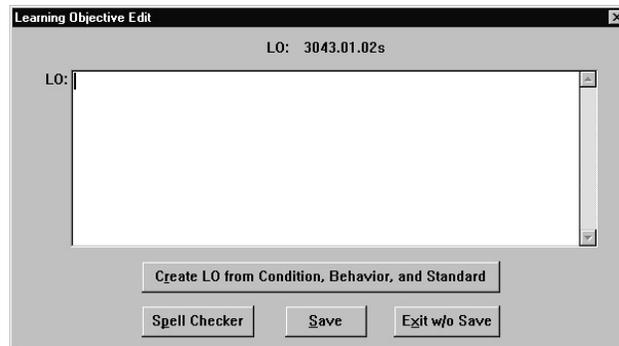

Figure 6-45. Learning Objective Edit
4. Click on **Combined LO**. The Learning Objective Edit dialog box (Figure 6-45) opens displaying a blank text field.